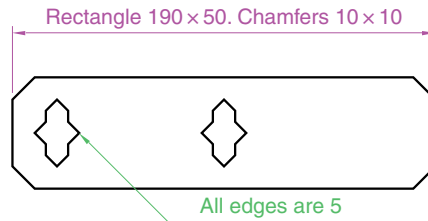

Fig. 5.23 Example – **Move** – drawing
1. Construct the drawing in Fig. 5.23.